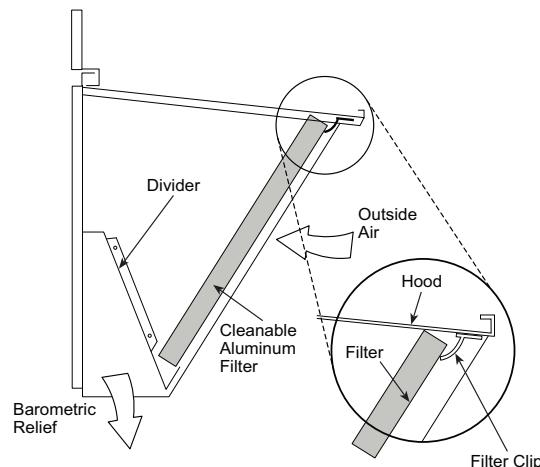

Fig. 14 — Economizer Filter Installation
- Open the filter clips which are located underneath the hood top. Insert the aluminum filter into the bottom filter rack (hood divider). Push the filter into position past the open filter clips. Close the filter clips to lock the filter into place. See Fig. 14.